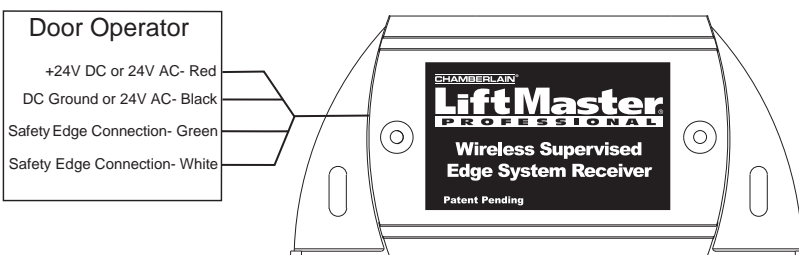

FIGURE 1
2. Wire receiver to operator (Refer to page 2 figure 1).